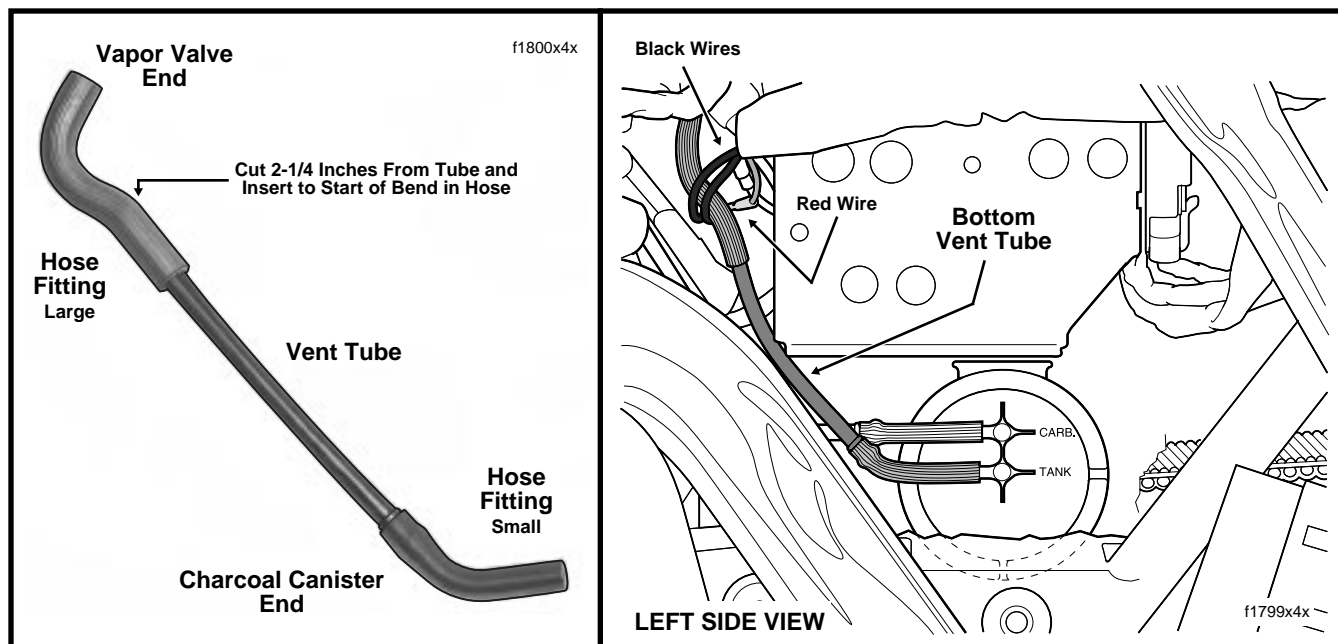

Figure 5. Bottom Vent Tube Routing (Charcoal Canister to Vapor Valve - California Models Only)
14. Pull hose fitting from vapor valve end of vent tube. Cut 2-1/4 inches from end of tube. Insert tube back into same end of hose fitting until end of tube just reaches start of bend in hose. See left frame of Figure 5.
19. Reach in through opening above fuse block bracket (weldment between downtubes) and attach smaller hose fitting on vent tube to bottom fitting on charcoal canister. See left frame of Figure 5.
To avoid interference that may influence the position of the valve, route tube in front of the red wire to the circuit breaker (silver post), and rear of the two black wires to the left side ground post. See right frame of Figure 5. If more separation is needed, use a finger to push the black wires forward and the red wire rearward.